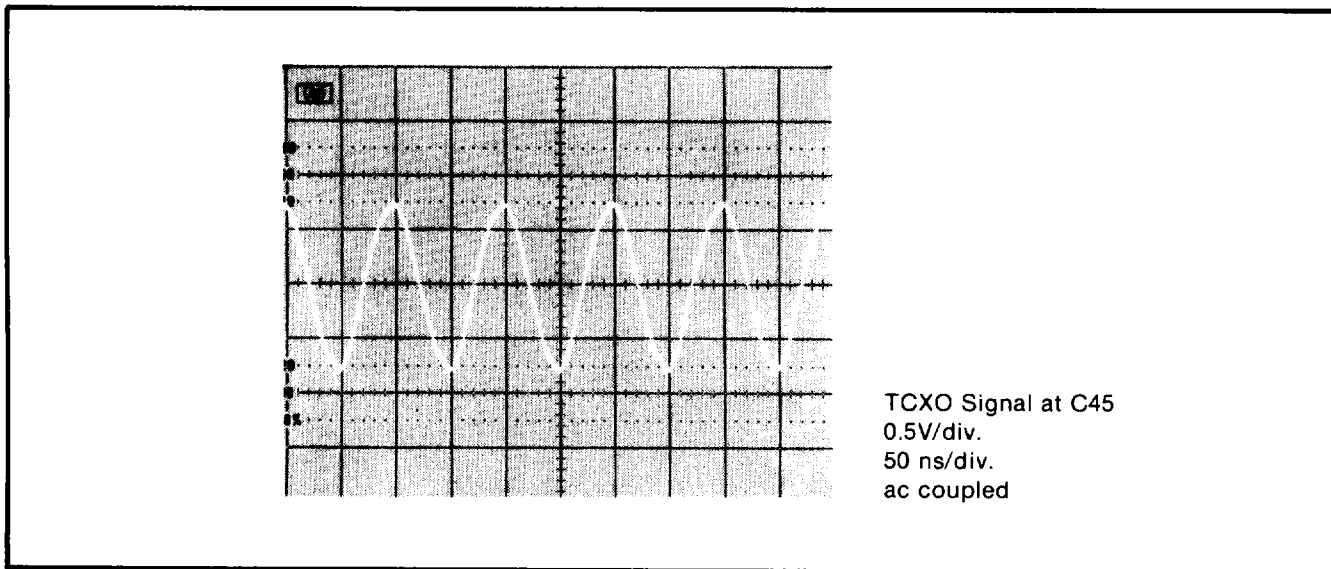

Figure 8-41. TCXO and Option 004 Oven Oscillator Waveform
3. Check for oscillator output at J2 on rear panel with oscilloscope probe. (Correct waveform for the TCXO is shown in *Figure 8-41*.)
3. Check for oscillator output at J2 on rear panel with oscilloscope probe. (Correct waveform for the oven oscillator is shown in *Figure 8-41*.)